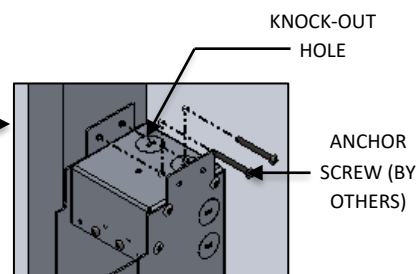

FIG. 14 - DETAIL SHOWING
5. Remove the appropriate knock out for desired wire entrance location as shown in FIG. 14.